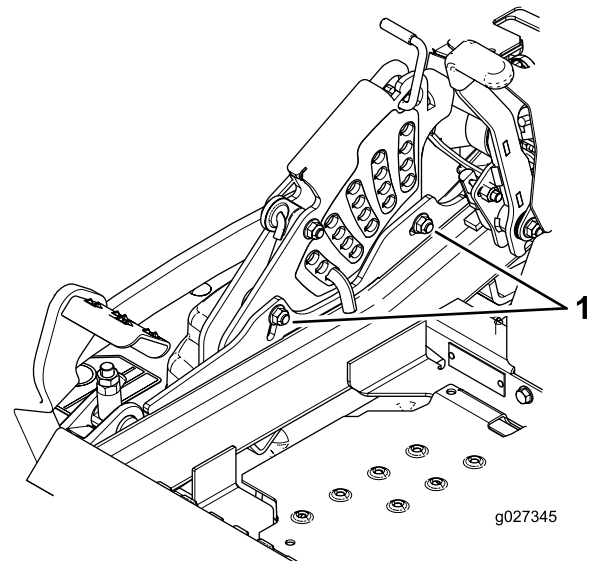

Figure 97
10. To adjust the single-point system, loosen the 2 bolts at the bottom of the height-of-cut plate (Figure 97).
12. Tighten the 2 bolts at the bottom of the height-of-cut plate (Figure 97).